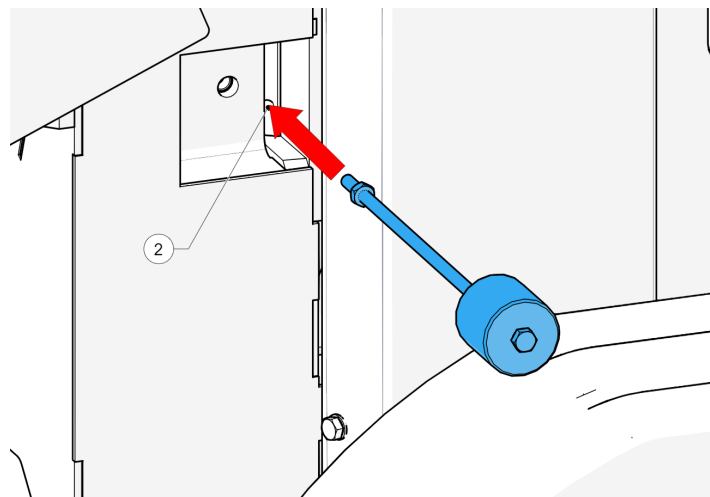

Figure 65 - Slide hammer
8. Insert a suitable slide hammer into the M8 hole (2, Figure 65).